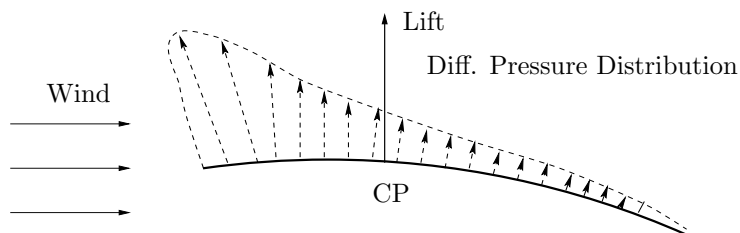

Figure 2: Differential pressure distribution and lift force generated over the sail by a two-dimensional flow.
facing the wind and low pressure on the other side; and this differential pressure distribution “in principle” multiplied by the area of the sail gives us a resultant force (Remember that Force = Area x Pressure) that is the resultant of all the force components distributed over the sail—see figure 2. That resultant force is usually called lift (term that has been taken from aerodynamics where these effects were first studied for plane wings) and acts perpendicular to the direction the wind had before reaching the sail at a point called Center of Pressure (CP). As stated in references [1], [5] and [6], the above explanation is the correct way to describe how the sail gives lift in steady flow (*i.e.*, flow characteristics do not change in time.)